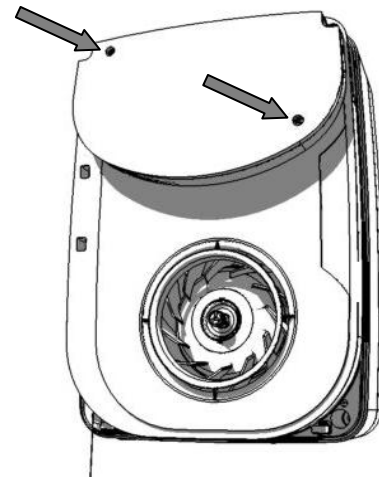

Fig.14
12) Re fit Electrical Cover with 2 screws indicated In Fig 14.